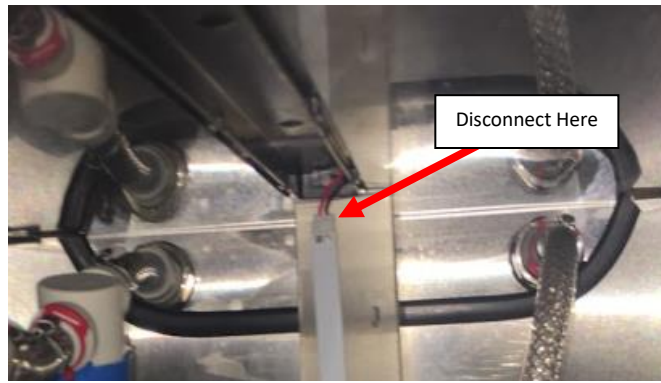

Figure 91: LED Light Strip harness connector shown.
- iii. Disconnect the light from the light harness. **See Figure 91.**